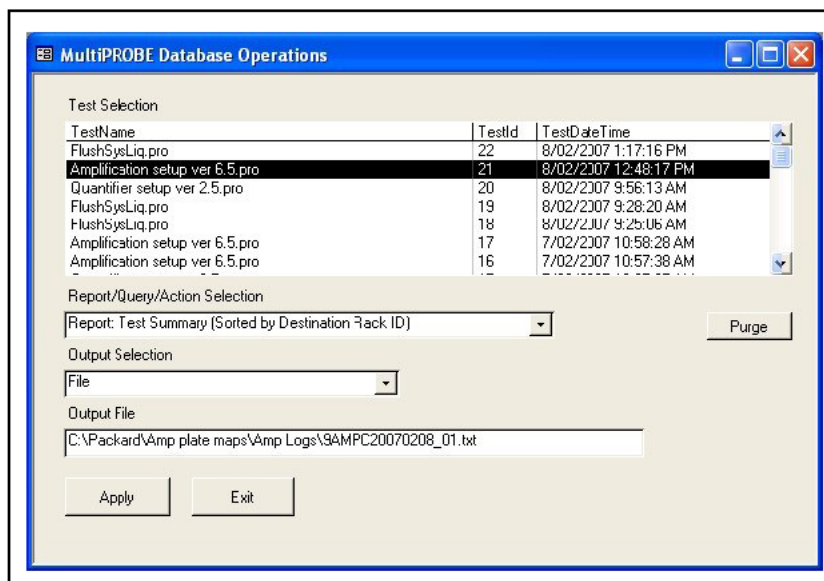

Figure 4. The MultiPROBE log database for collecting MP II run information
47. In the Output Selection dropdown menu, select “File”. Save the output file as *.csv format to **C:\PACKARD\EXT PLATE MAPS\EXT LOGS** with the same name as the AUSLAB batch ID and click “**Apply**”. (refer to Figure 4. below)